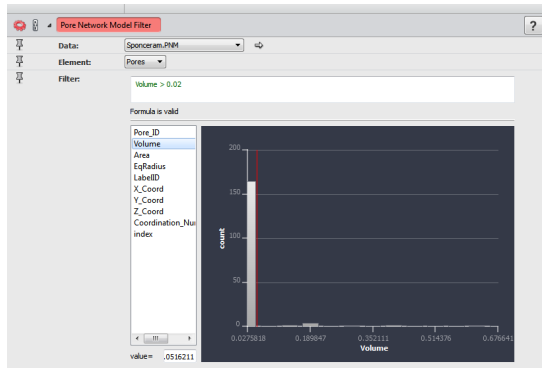

Figure 20.23: Parameters of the Pore Network Model Filter Module
7. Filter the data to keep only pores with volume greater than 0.02. Create a *Pore Network Model Filter* module on the generated PNM and then add $Volume > 0.02$ in the Filter port. You can visualize the filtered network by changing the Data port of the Pore Network Model View and setting it to the new network (see Figures 20.23 and 20.24).